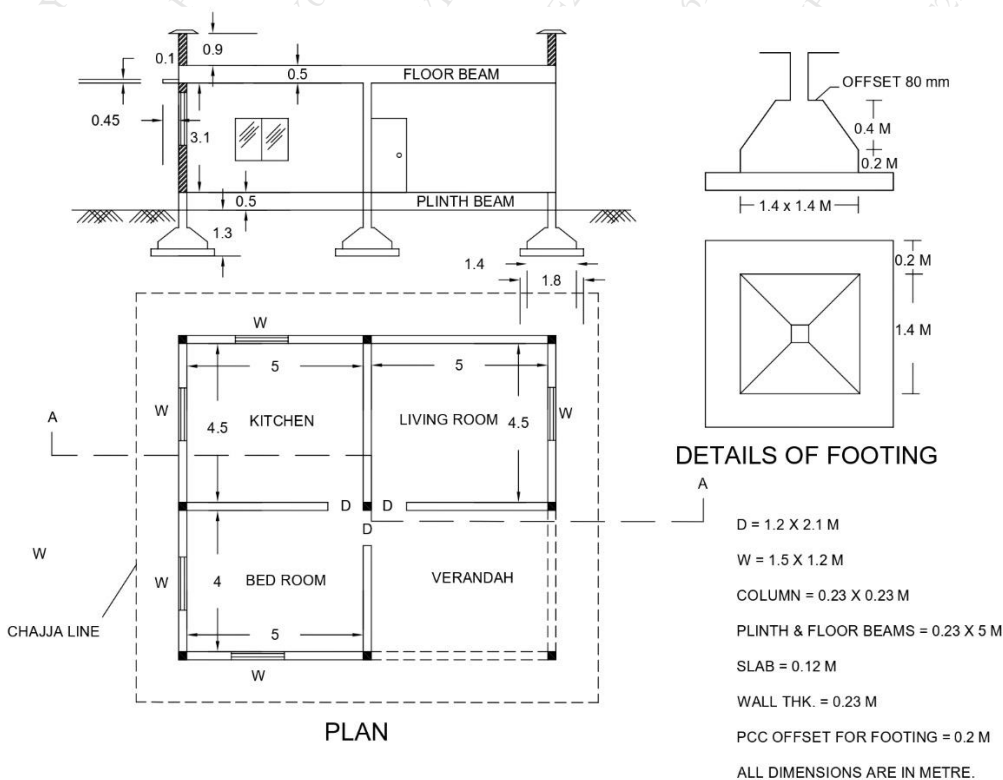

Fig.01
- Q.1** Workout following quantities from given plan and section. (**Fig.01**). **20**